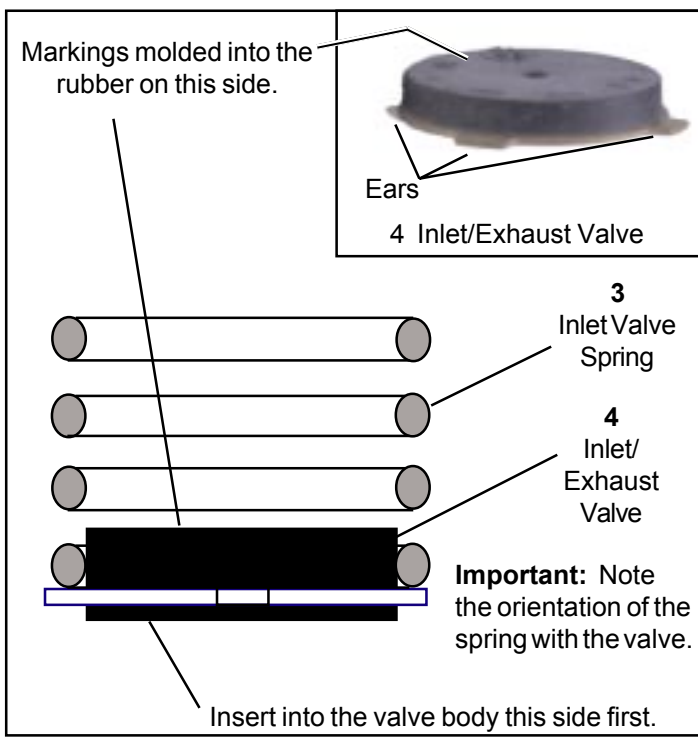

Figure 4 - Orientation of Inlet/Exhaust Valve
1. Place the inlet valve spring(3) over the thick black rubber portion of the inlet/exhaust valve(4). The spring rests on the outer diameter of the rubber portion of the valve. While holding the inlet/exhaust valve(4) on the inlet valve spring(3), gently place both into the valve body, first the valve and then the spring. Make sure the spring rests evenly on the four ears of the inlet/exhaust valve. See figures 4 and 5.
2. Properly align the inlet valve spring(3) in the recess at the end of the reservoir check valve assembly(1). Install the reservoir check valve assembly (or SR-2 pipe nipple) into the valve body. Torque to 200-300 inch pounds. **Caution:** If servicing an SR-2 reuse the pipe nipple removed during disassembly do not install the check valve assembly.